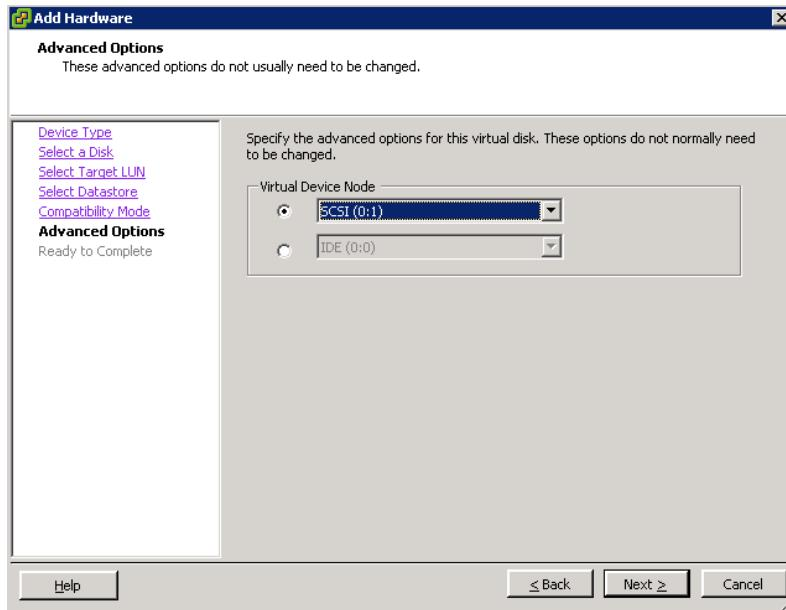

Figure 5-27. Add Hardware—Advanced Options
12. Select advanced options. In this example, accept the default, and then click **Next** (Figure 5-27).